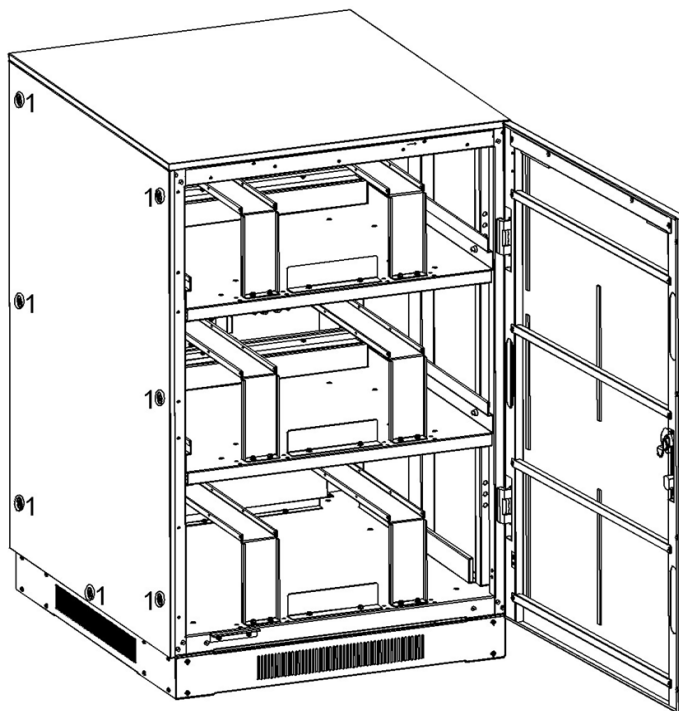

Figure 5-6A
1. Remove all screws labeled 1 (Figures 5-6A and 5-6B).